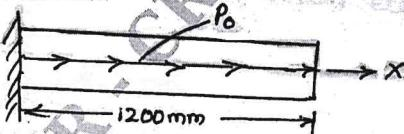

Fig Q4(a)
4. a. Fig Q4(a), show a bar subjected to a UDL of  $P_0 = 100\text{N/m}$ , Take  $E = 70\text{GPa}$ , Area ( $A$ ) =  $10^4\text{mm}^2$  to determine : i) Nodal displacements ii) Stress in element.